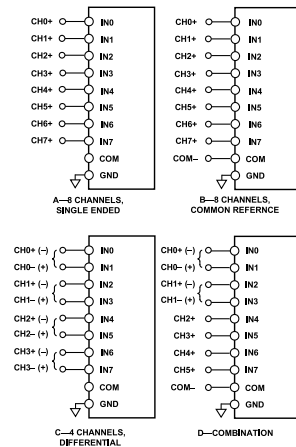

Figure 32. Multiplexed Analog Input Configurations
Figure 32 shows the different methods for configuring the analog inputs with the configuration register, CFG[12:10]. Refer to the Configuration Register, CFG section for more details.
- ▶ **Figure 32 (A)**, single-ended referenced to system ground, $\text{CFG}[12:10] = 111_2$. In this configuration, all inputs (IN[7:0]) have a range of GND to V_{REF} .
- ▶ **Figure 32 (B)**, bipolar differential with a common reference point, $\text{COM} = V_{\text{REF}}/2$, $\text{CFG}[12:10] = 010_2$. Unipolar differential with COM connected to a ground sense; $\text{CFG}[12:10] = 110_2$. In this configuration, all inputs IN[7:0] have a range of GND to V_{REF} .
- ▶ **Figure 32 (C)**, bipolar differential pairs with the negative input channel referenced to $V_{\text{REF}}/2$, $\text{CFG}[12:10] = 00X_2$. Unipolar differential pairs with the negative input channel referenced to a ground sense, $\text{CFG}[12:10] = 10X_2$. In these configurations, the positive input channels have the range of GND to V_{REF} . The negative input channels are a sense referred to $V_{\text{REF}}/2$ for bipolar pairs, or GND for unipolar pairs. The positive channel is configured with $\text{CFG}[9:7]$. If $\text{CFG}[9:7]$ is even, then IN0, IN2, IN4, and IN6 are used. If $\text{CFG}[9:7]$ is odd, then IN1, IN3, IN5, and IN7 are used, as indicated by the channels with parentheses in Figure 32 (C). For example, for IN0/IN1 pairs with the positive channel on IN0, $\text{CFG}[9:7] = 000_2$. For IN4/IN5 pairs with the positive channel on IN5, $\text{CFG}[9:7] = 101_2$. Note that for the sequencer, detailed in the Channel Sequencer section, the positive channels are always IN0, IN2, IN4, and IN6.
- ▶ **Figure 32 (D)**, inputs configured in any of the preceding combinations (showing that the AD7682/AD7689 can be configured dynamically).